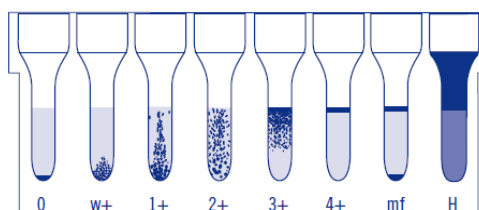

Figure 1. Picture of an example of reaction grades
**Positive results:** agglutination and/or hemolysis of the red blood cells is visible in the microtube. In a positive result the agglutinated red blood cells may remain throughout the gel column showing different reaction grades (see Reaction Grades and Figure 1 for a picture of example of reaction grades). Some positive reactions may also form a pellet in the bottom of the